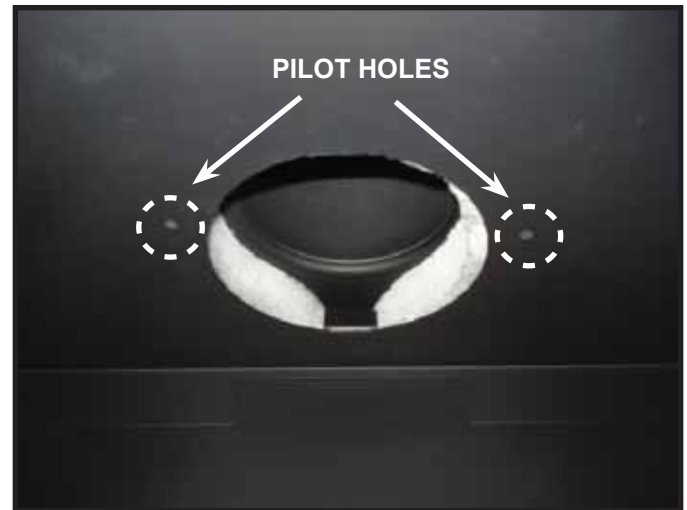

Figure 7.9 Location of Pilot Holes
1. Locate the two pilot holes located in the inside firebox heat shield as shown in Figure 7.9.